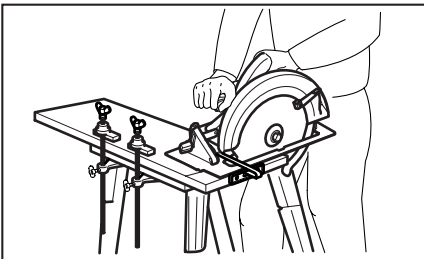

Fig. 4 A typical illustration of proper hand support and workpiece support.
**WARNING:** It is important to support the workpiece properly and to hold the saw firmly to prevent loss of control which could cause personal injury. Fig. 4 illustrates typical hand support of the saw.